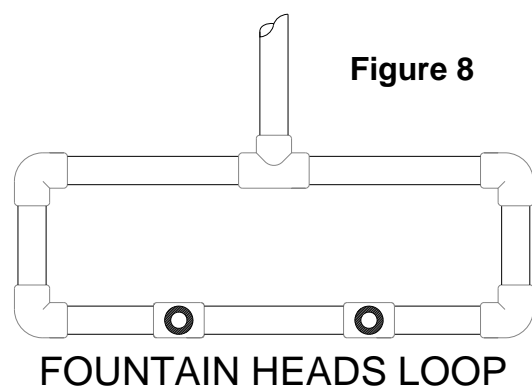

Figure 8
1. It is essential that each set of Living Waters Fountain Heads be looped to ensure equivalent water flow is delivered to each head (See Figure 8).